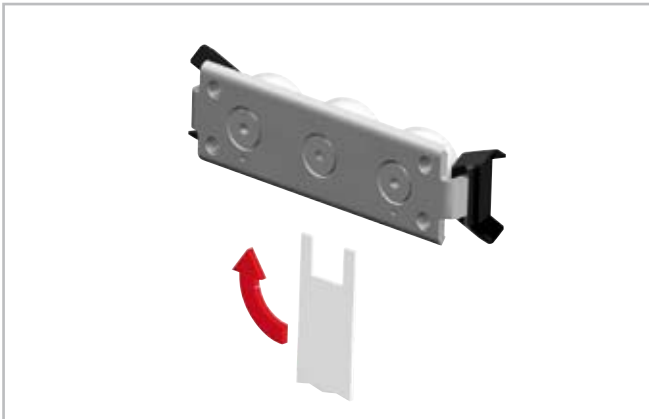

Fig. 28
- The included special flat key is inserted from the side between the rail and the slider and plugged onto the hexagonal or square shaft of the eccentric pin to be adjusted (see fig. 28).